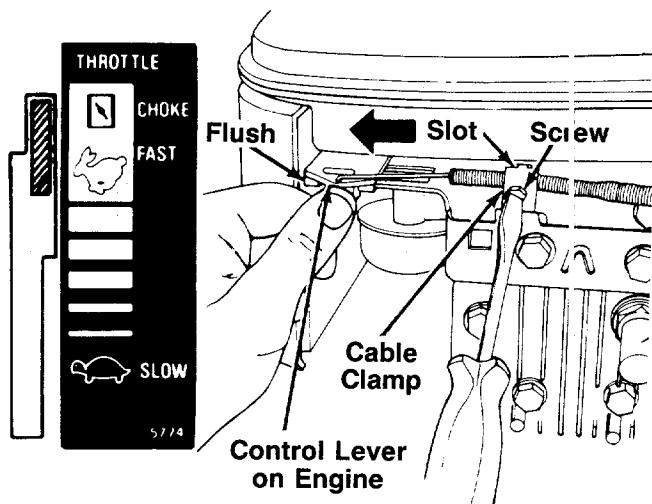

FIGURE 5.
1. Push the throttle control lever on the handle all the way forward to **CHOKE** position. See figure 5.
2. The throttle control cable is attached to the upper handle. Route the throttle control cable under the lower handle and outside the height adjustment lever, handle wheel bracket assembly and the grass catcher bracket. Hook the "Z" end of the throttle control cable into the hole in the control lever on the engine. See figure 5.
3. Using a 5/16" wrench or nutdriver, remove the screw on the cable clamp shown in figure 5. Slip the control cable under the clamp. Replace the screw (cable should be above the screw), but do not tighten screw (cable must still move freely beneath the clamp). Make certain the tab on the cable clamp is seated into the slot on the engine.
4. Push the control lever on the engine as far toward the **outside** of the engine as it will go. The edge of the control lever should be flush with the bracket on the engine. See figure 5. Hold the control lever in this position as you tighten the screw on the cable clamp to secure the throttle cable.